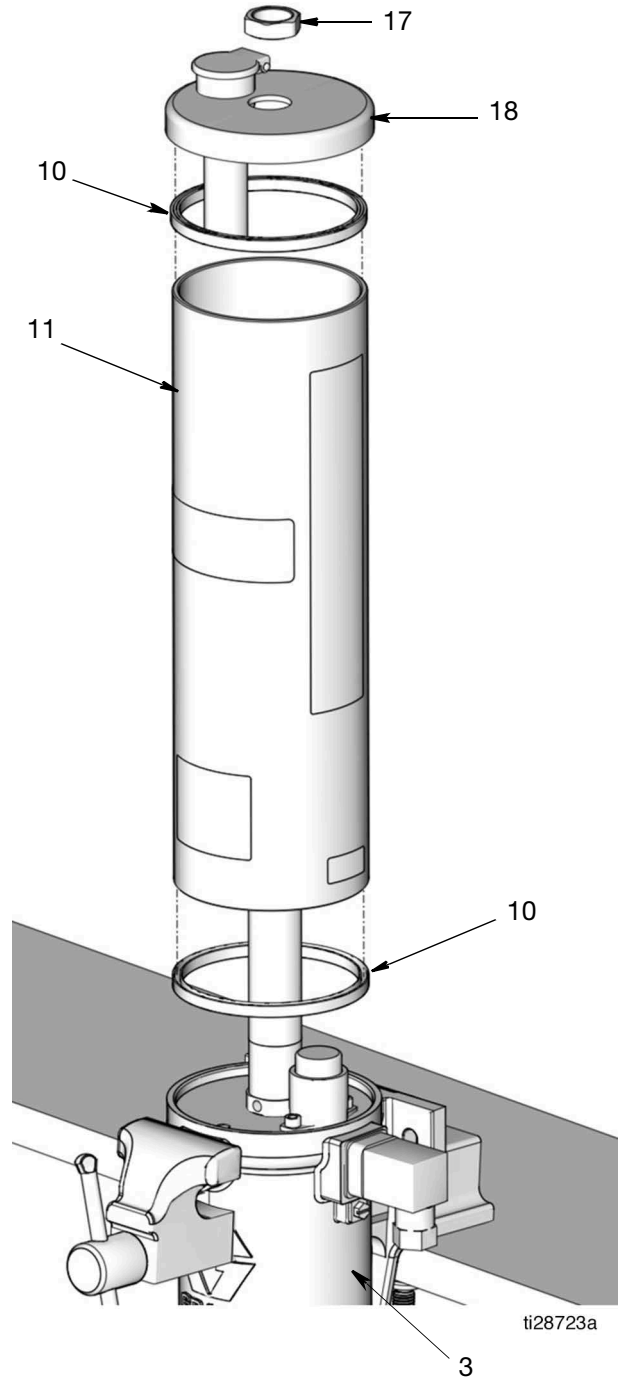

FIG. 15
- 11. Remove the cover (18) from the reservoir (11).
- 12. Remove reservoir (11) from the air motor cylinder (3) (FIG. 15). If replacing the reservoir gaskets (10), remove gaskets from the reservoir. Dispose of the gaskets according to all regulations for proper disposal.